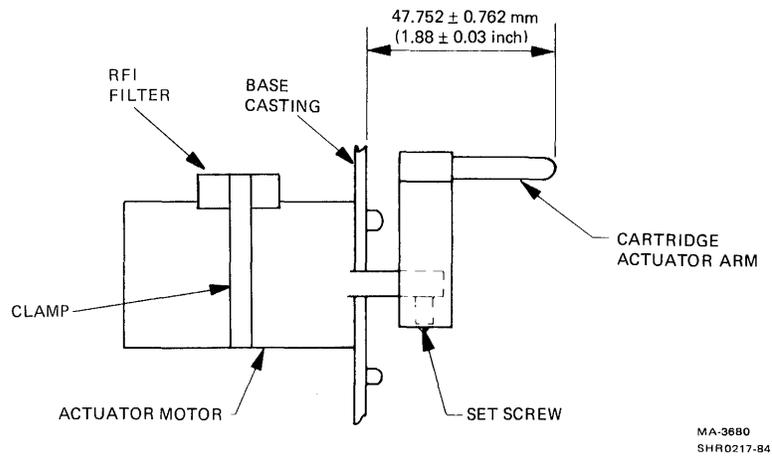

Figure 6-5 Cartridge Actuator Motor Alignment
4. Remove arm from motor shaft by loosening set screw (Figure 6-5).
6. Install new motor with the four mounting screws. Set arm height shown in Figure 6-5 and tighten set screw.